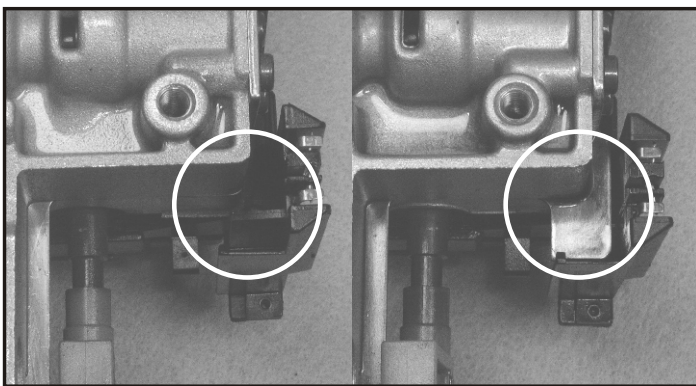

Figure 22
**140 277 34 01** = One month later in April of 1996, the spacer plate received a minor design change. The modification extended the spacer plate in the manual valve area as seen in Figure 22. This extension of the plate acts as a “arm” adding support for the reed switch built into the conductor plate.